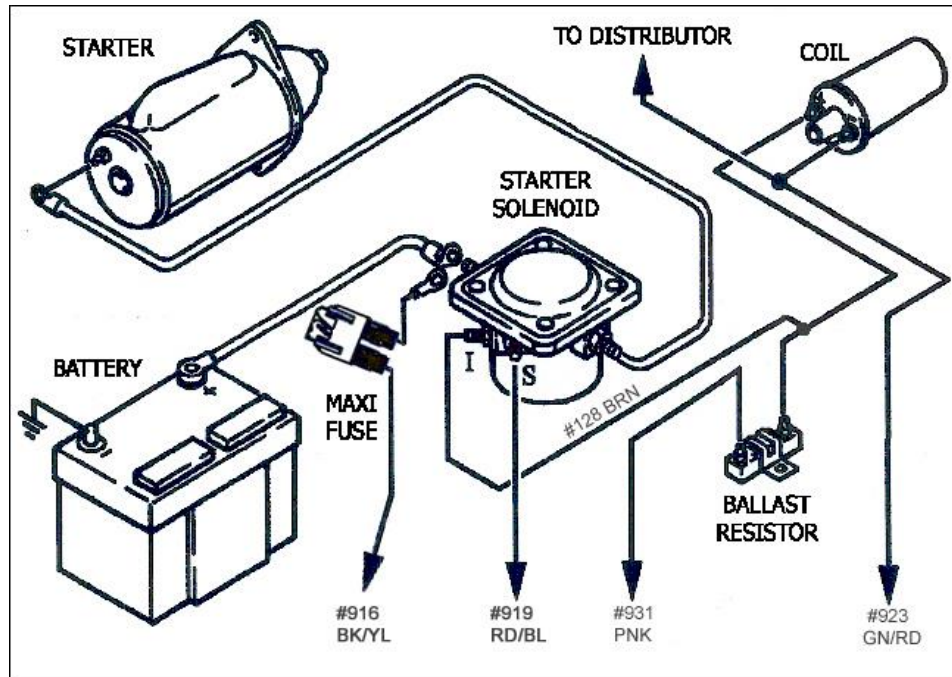

Figure 7-2A Ford Ignition (Start/Run) System
7.2 Ford Ignition (Start/Run) System. See Figure 7-2A - 7-2C.